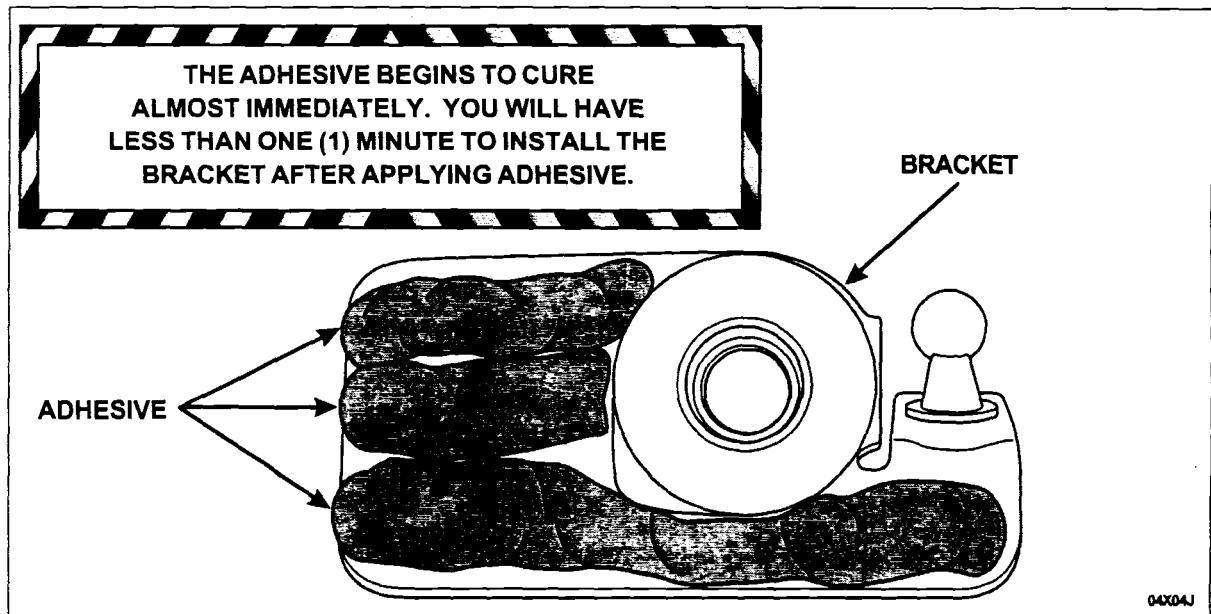

FIGURE 10
After the primer has dried for fifteen (15) minutes, apply three (3) **large** beads (9-10 mm in diameter) of adhesive to the backside of the *new* left-side bracket. See Figure 10.
14. Apply three (3) **large** beads (9-10 mm in diameter) of adhesive to the backside of the **new** right-side bracket. See Figure 10.